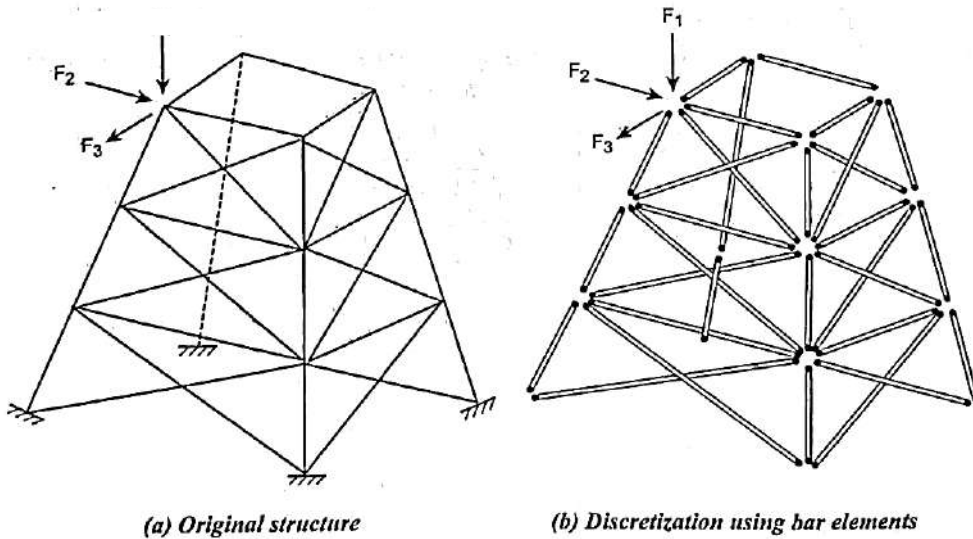

Figure 1.18.
- The structure, shown in Fig 1.18 is discretized by using line of bar elements.